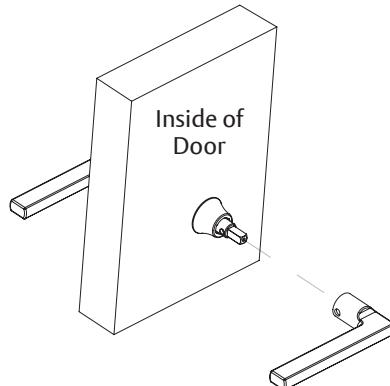
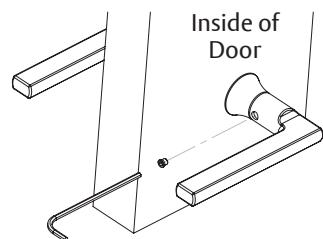

Figure 8
Figure 9
3. Slide lever over spindle and adapter. (Figure 8) 4. Secure with set screw. (Figure 9)